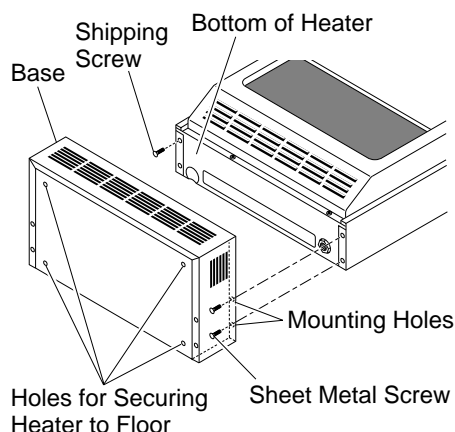

Figure 18 - Attaching Heater to Hearth Base
1. Position hearth base in desired location. Mark holes for drilling (see Figure 18). Remove hearth base.
3. Line up mounting holes on top of hearth base with holes in bottom of heater (see Figure 18).
4. Using a Phillips screwdriver, secure hearth base to heater with four sheet metal screws (see Figure 18).